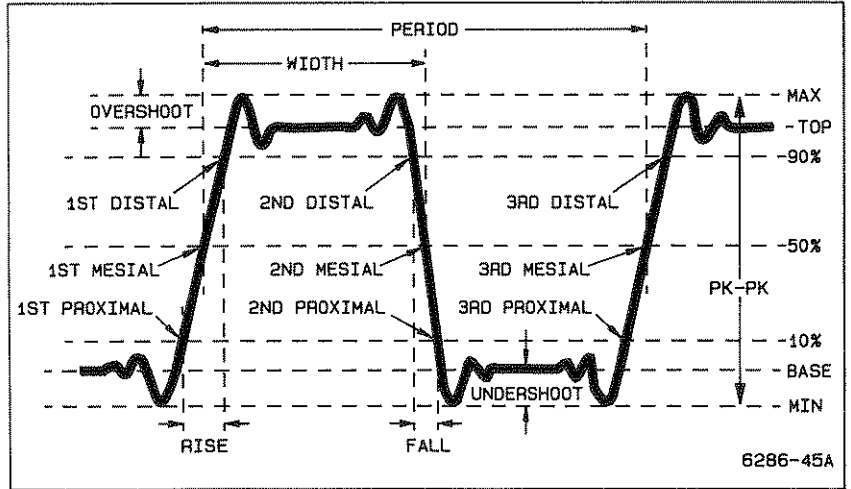
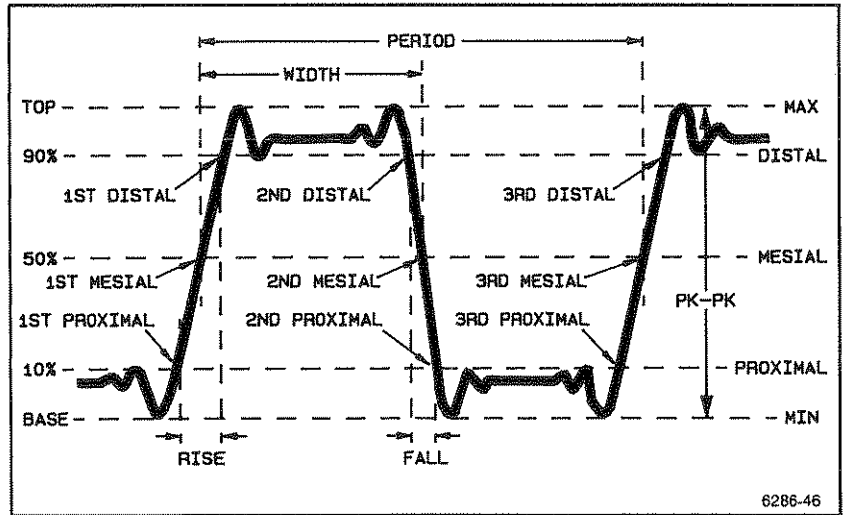

Figure C-1. Parameter extraction using HISTogram method.
Figure C-2. Parameter extraction using MIN/MAX method.
The HISTogram method attempts to ignore ringing and spikes on waveforms when determining the 0% (BASE), and 100% (TOP) levels. It's the best method to use when measuring square waves and pulse-type waveforms. Figures C-1 and C-2 illustrate the differences between HISTogram and MIN/MAX methods. (Note the differences in how the TOP and BASE levels are located on the waveform and how the amplitude-reference levels are affected.)
The PROXIMAL, MESIAL, and DISTAL levels are shown in Figure C-1 for HISTogram method waveforms and in Figure C-2 for MIN/MAX method waveform.
*The amplitude-reference levels just found are shown for the first through third edge on Figures C-1 and C-2. The crossing points labeled "1st" (1st MESIAL, etc.) are on the first edge; those labeled "2nd" are on the second edge; etc.*
Once the second MESIAL is found, the backward/forward search just described repeats to locate the other two reference levels for the second edge, followed by the next MESIAL for the third edge (last rising edge in Figures C-1 and C-2). This process of finding the amplitude-reference points (and using the corresponding times to build arrays of time-reference points) is repeated until four sets of edge information are collected or until the entire active window has been searched.
Table C-1 shows how each waveform parameter is calculated. Some parameters are calculated directly from the time-reference points derived from the three arrays. For example, the parameter WIDTH is calculated by subtracting the time at the first MESIAL crossing from the time at the second MESIAL crossing of the waveform, where both MESIAL crossings are on edges bracketing the pulse. All array-derived time-reference points are illustrated in Figure C-1; this figure is useful in visualizing the calculations made directly from these reference points.